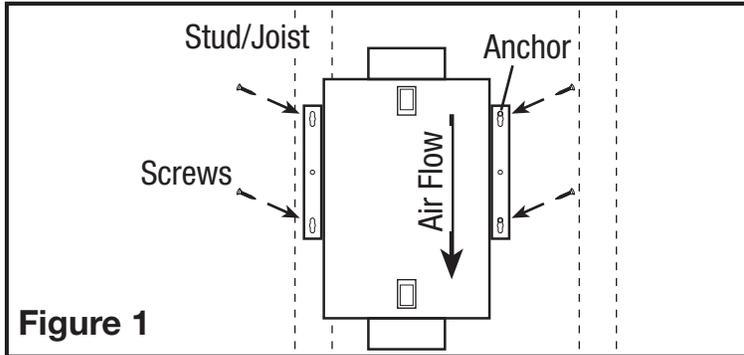

Figure 1
- 2a. **Surface Mounting:** Locate at least one stud or joist. Place the fan in position so that the mounting bracket is centered on the stud or joist and make the location for the four (4) holes. Remove the fan and install properly rated wall/ceiling anchors for the holes that do not go directly into a joist or stud. Position fan in place and secure with screws (not included) (Figure 1).